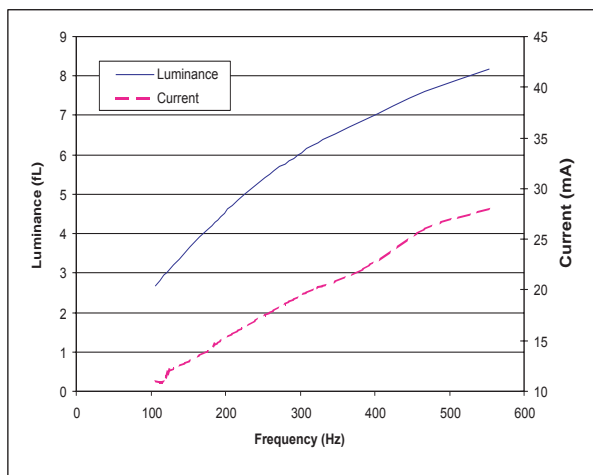

Figure 2: Typical Luminance and Current vs. Lamp Frequency
The selection of the CLF value can also affect the output brightness and current consumption of the driver. The EL lamp frequency (LF) depends on lamp size, drive conditions, and mainly on the CLF value selected. Figures 2 and 3 show typical brightness and current draw of a D372 circuit at different frequencies. The data was taken with an average 1.0mH inductor and 68 pf CHF capacitor.